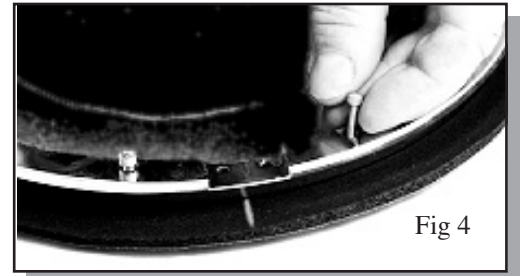

Fig 4
6) Double check that the alignment marks as well as the rings are properly positioned. Insert the Allen head screw P/N 530-024 into positions shown in fig 4 & 5. Using the 7/64" Allen wrench, apply slight pressure to the screw while turning to make it penetrate the material and tighten about 3 turns.